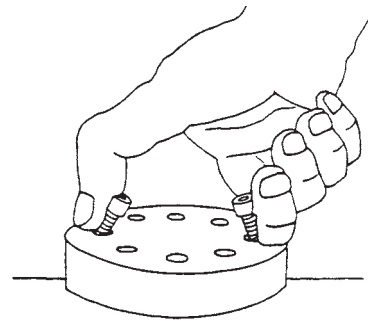

Figure 4.3: Piston head removal
3. Loosen the piston head bolts and remove the piston head as shown in figure 4.3 by pinching two loose bolts together.
1. To replace the first stage piston of the model 351 or the first and second stage pistons of the model 391, remove the piston head by loosening and removing the socket head bolts holding the piston head to the piston platform (see Figure 4.3).